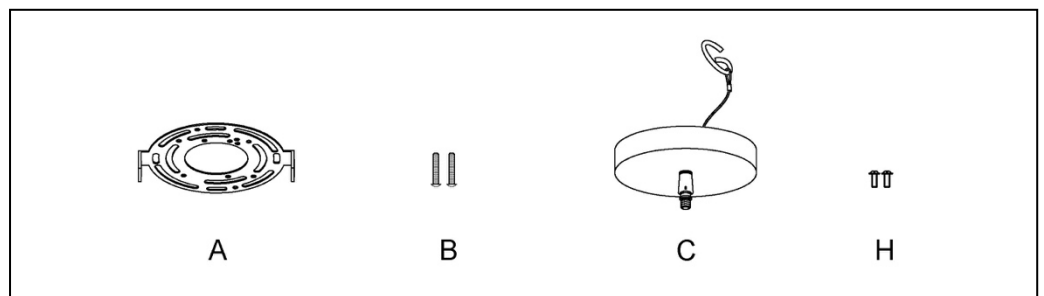

**Fig.3**
### ASSEMBLING THE FIXTURE (Fig.1 & Fig.3)
4. Attach mounting plate (A) to the junction box (not included) with junction box screws (B) (Size: #8-32N\*L1"). The side of the mounting plate (A) with "GND" marked on it and two convex points must face out.
5. Support cable is provided to support weight of fixture while wiring. Align fixture to mounting plate (A) and attach hook (I) on the end of support cable into a slot located on mounting plate (A). Carefully allow support cable to support weight of fixture while wiring (Fig.1 Fig 3).